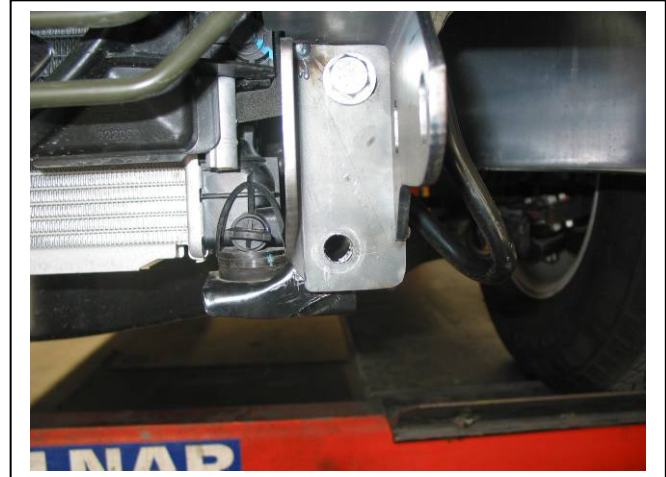

Figure 5: Fitting Steel mount onto chassis rail. Passenger's side shown with Bumper removed.
7. Fit ECB steel mounting brackets (supplied) to hole where bolts previously removed using $\frac{1}{2}$ x $1\frac{1}{2}$ bolt, flat washers, spring washers and nuts (supplied). **FINGER TIGHTEN ONLY. See figure 5.**